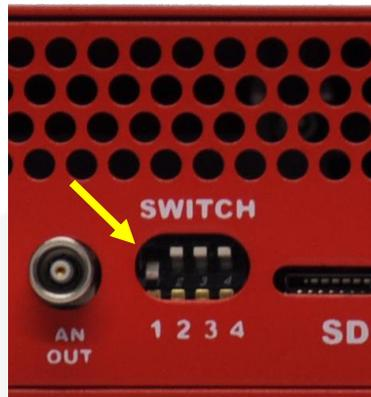

Figure 16: SWITCH position for normal use.
- Set the SWITCH #1 on the rear panel to be positioned back low, as illustrated in Figure 16;